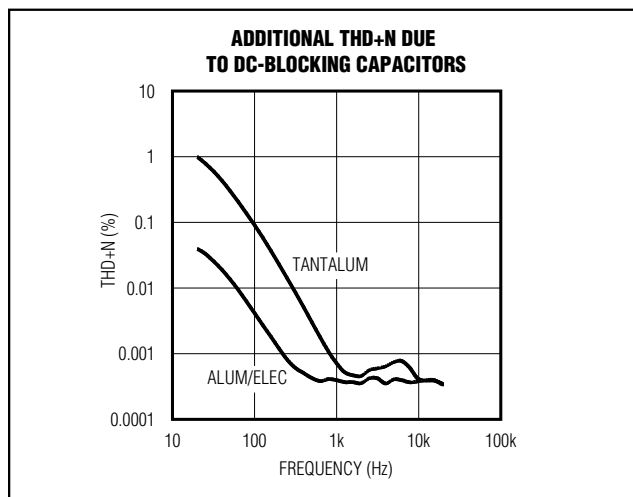

Figure 3. Distortion Contributed By DC-Blocking Capacitors
- 2) The voltage coefficient of the DC-blocking capacitor contributes distortion to the reproduced audio signal as the capacitance value varies when the function of the voltage across the capacitor changes. At low frequencies, the reactance of the capacitor dominates at frequencies below the -3dB point and the voltage coefficient appears as frequency-dependent distortion. Figure 3 shows the THD+N introduced by two different capacitor dielectric types. Note that below 100Hz, THD+N increases rapidly.